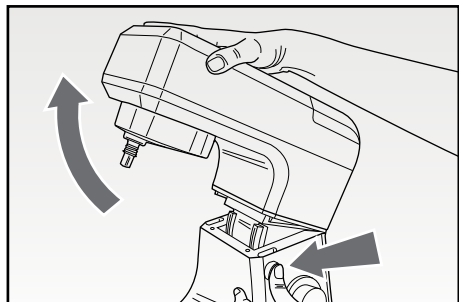

Fig. 2
- Press button (B) and, at the same time, lift the arm (A) until it locks in place (Fig. 2).